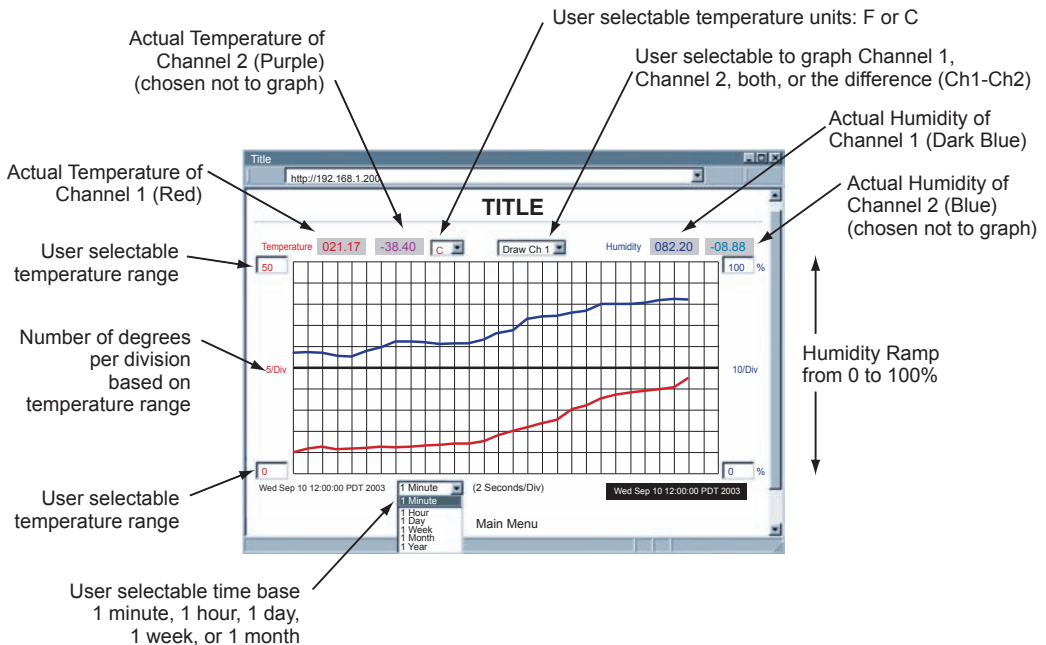

Figure 4.8 Chart
- Click on **Chart**, the following page (**Figure 4.8**) should appear. The Java™ Applet graph displays Temperature and Humidity values, which can be charted across the full span (-40 to 124°C, and 0 to 100% RH) or within any narrow range (such as 20 to 30°C). The time-base can display one minute, one hour, one day, one week, one month or one year. Users can select channel 1, channel 2 or the difference of the two channels.